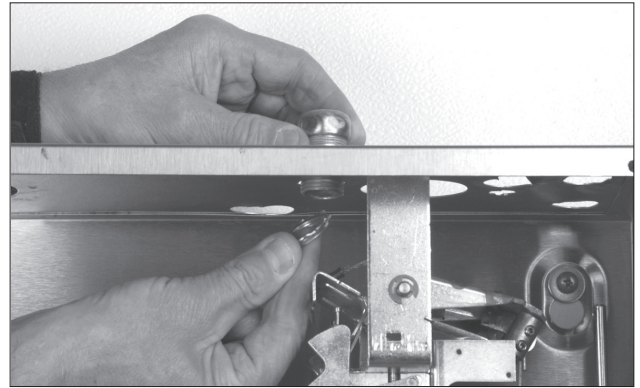

FIGURE 5-53
2. Starting at the AUTOMAN release, connect the conduit connector using the supplied nut. Use only ANSUL® conduit fittings (Part No. 55813). See Figure 5-53.